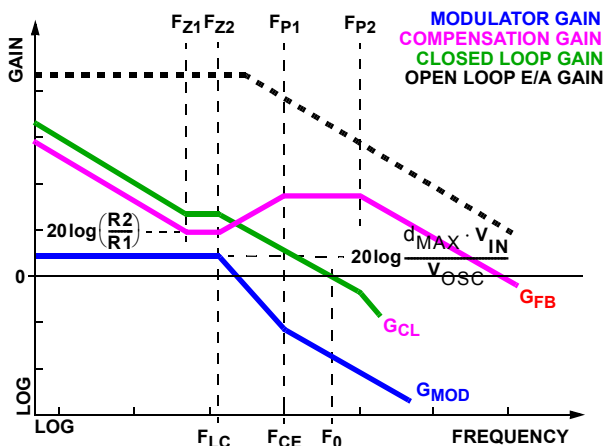

FIGURE 15. ASYMPTOTIC BODE PLOT OF CONVERTER GAIN
Figure 15 shows an asymptotic plot of the DC/DC converter's gain vs. frequency. The actual Modulator Gain has a high gain peak dependent on the quality factor (Q) of the output filter, which is not shown. Using the above guidelines should yield a compensation gain similar to the curve plotted. The open loop error amplifier gain bounds the compensation gain. Check the compensation gain at F_{P2} against the capabilities of the error amplifier. The closed loop gain, G_{CL} , is constructed on the log-log graph of Figure 15 by adding the modulator gain, G_{MOD} (in dB), to the feedback compensation gain, G_{FB} (in dB). This is equivalent to multiplying the modulator transfer function and the compensation transfer function and then plotting the resulting gain.